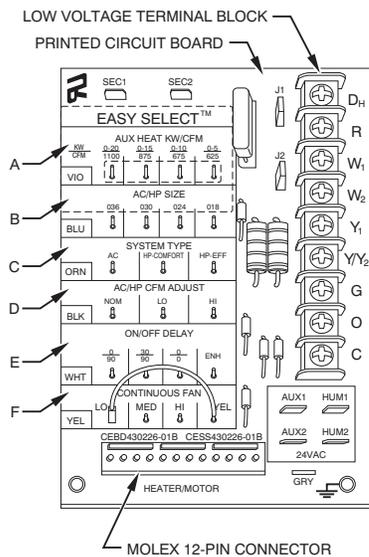

Fig. 17 - Detail of FV4C Printed-Circuit Board
Easy Select™ taps are used by the installer to configure a system. The ECM motor uses the selected taps to modify its operation to a pre-programmed table of airflows. (See Table 3 and 4.) Airflows are based on system size or mode of operation and those airflows are modified in response to other inputs such as the need for de-humidification. (See Fig. 17 and 18.)
Installer must select the auxiliary heat airflow approved for application with kW size heater installed. If no heater is installed, this step can be skipped. Each select pin is marked with a range of heaters for which airflow, also marked, is approved. For increased comfort select the narrowest kW range matching the heater size, for example, 0- 10 for 10- kW heater. This airflow must be greater than the minimum CFM for electric heater application with the size system installed for safe and continuous operation. (See Table 5 and 6 for airflow delivery and minimum CFM.) Note that airflow marked is the airflow which will be supplied in emergency heat mode and heating mode on air conditioners when electric heat is the primary heating source. In heat pump heating mode when electric heaters are energized, the ECM motor will run the higher of heat pump heating airflow and electric heater airflow to ensure safe heater operation. The factory selection is the largest heater range approved. (See Fig. 17, A as indicated.)
The factory setting for air conditioner or heat pump size is the largest unit meant for application with the model of fan coil purchased. Installer needs to select air conditioner or heat pump size to ensure that airflow delivered falls within proper range for the size unit installed. This applies to all operational modes with the exception of electric heat modes. (See Fig. 17, B as indicated.)
3. HP-EFF - Heat Pump Efficiency provides same airflow for heating and cooling modes to increase overall HP efficiency; approximately 350 CFM per ton. The factory setting is AC. (See Fig. 17, C as indicated.)
To provide airflow at rates described above, the AC/HP ADJUST select is factory set to the nominal (nom) tap. The adjust selections HI/LO will regulate airflow supplied for all operational modes, except non-heat pump heating modes. HI provides 15% airflow over nominal unit size selected and LO provides 10% airflow below nominal unit size selected. Adjust selection options are provided to adjust airflow supplied to meet individual installation needs for such things as noise, comfort, and humidity removal. (See Fig. 17, D as indicated.)
Four motor operation delay profiles are provided to customize and enhance system operation. (See Fig. 17, E as indicated)
3. HI speed - move connector of HI, 100% cooling mode airflow. (See Fig. 17, F as indicated.)
The following fan coil configuration is recommended for maximum heating and cooling/dehumidifying comfort: (See Fig. 17.)
7. If the fan coil is installed with Intelligent Heat Staging capable electric heaters, remove jumper J2. (See Fig. 17.)
The AUX and HUM terminals on the Easy Select Board are tied directly to the G terminal, and provide a 24-vac signal whenever the G terminal is energized. (See Fig. 17 and 18.) During Super Dehumidify and SuperComfort / Perfect Heat modes, the G signal is not present and the auxiliary terminals are not energized. If the installation includes the use of these operating modes, do not use these terminals to control accessories. See Electronic Air Cleaner and Humidifier sections for further information.